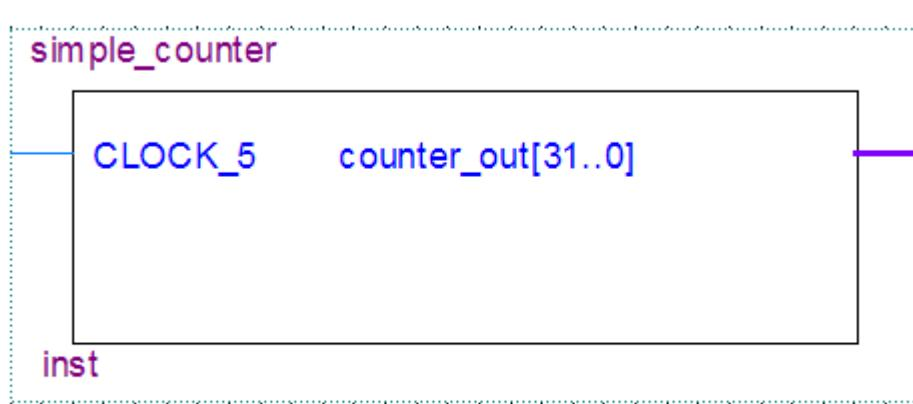

Figure 6-18 Placing the simple\_counter symbol
13. Move the cursor to the BDF grid; the symbol image moves with the cursor. Click to place the simple\_counter symbol onto the BDF. You can move the block after placing it by simply clicking and dragging it to where you want it and releasing the mouse button to place it. See **Figure 6-18**.